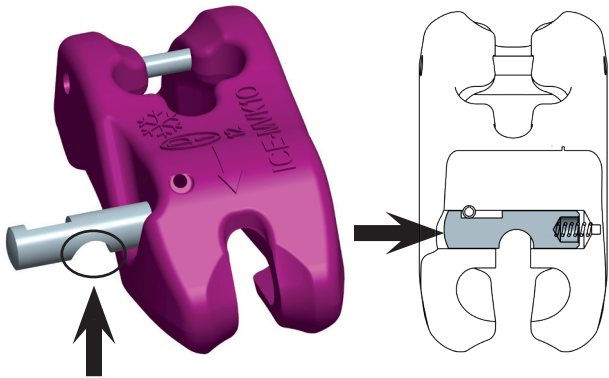

Fig.35
6. Push a new securing bolt into the bore (Fig. 35).
- Align the securing bolt in such a way that the rounded recess is pointing downwards (fig. 35). Only then can the clamping pin to secure the securing bolt be inserted into the appropriate groove using a hammer.